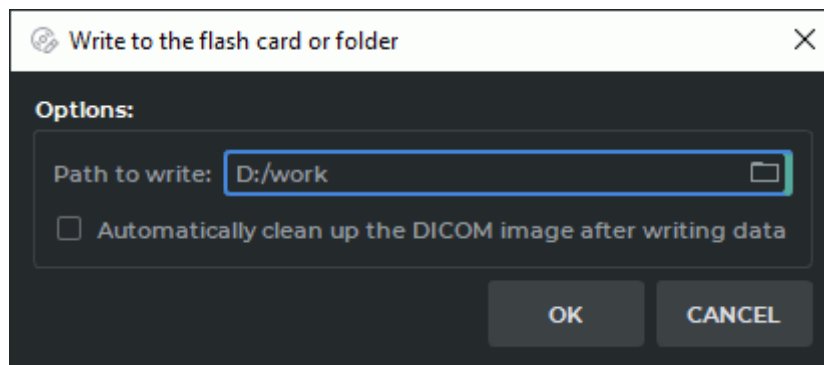

Figure 14.4: Write to the flash card or folder dialog box
1. Click the **Write created DICOM CD/DVD image to the flash card or folder**  button on the Disk Creator toolbar. Dialog box is shown in Figure 14.4.